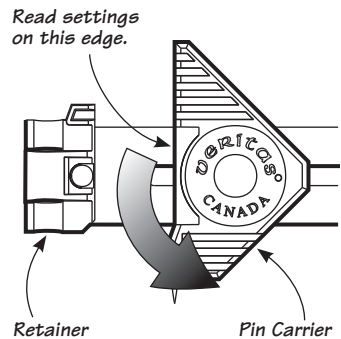

Figure 1: Compass position.
2. Rotate the pin carrier into the position as shown in **Figure 1**, and tighten the knob slightly.